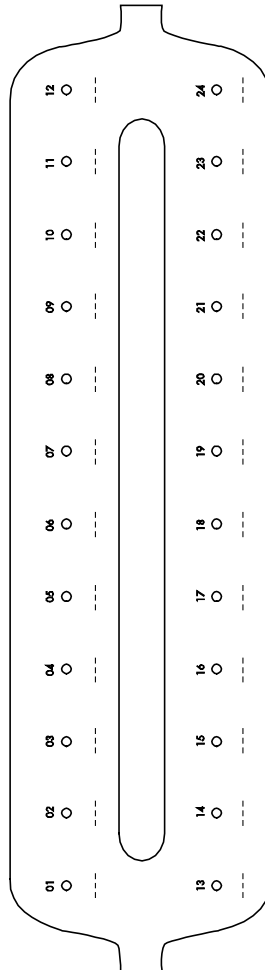

Figure 5. Labeling scheme for lysis tubes (LT), elution tubes (ET), and QIAamp Mini spin columns for use on the QIAvac 24 Plus vacuum system.
(1) VacValve (2) VacConnector (VC) (3) QIAamp Mini spin column
If using the vacuum procedure with the QIAvac 24 Plus vacuum system, we recommend labeling the lysis tubes (LT), elution tubes (ET), and the QIAamp Mini spin columns according to the scheme in Figure 5 (see next page) in order to avoid the mix-up of samples. This figure can be photocopied and labeled with the names of the samples. We recommend using a similar scheme if using other vacuum systems or if using the spin procedure.